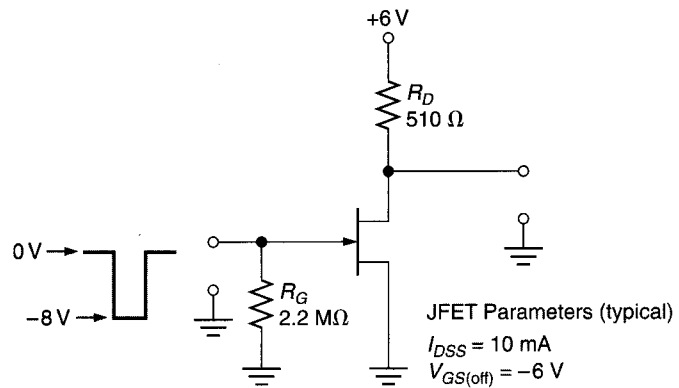

FIGURE 19.49
5. Determine the high and low output voltages for the circuit shown in Figure 19.49.